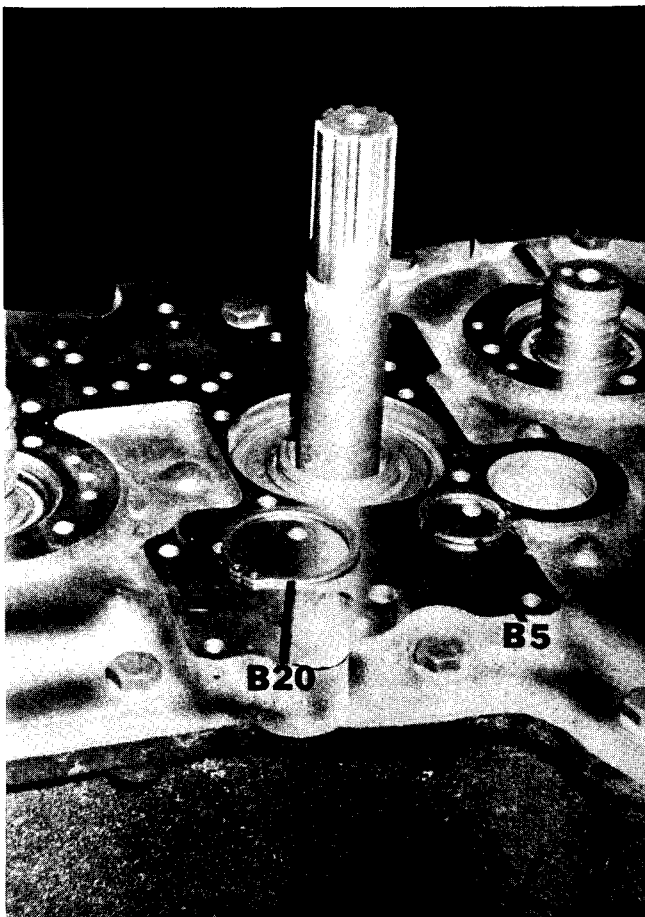

Figure 56
17. Install snap rings (B-20 and B-5) (Figure 56).